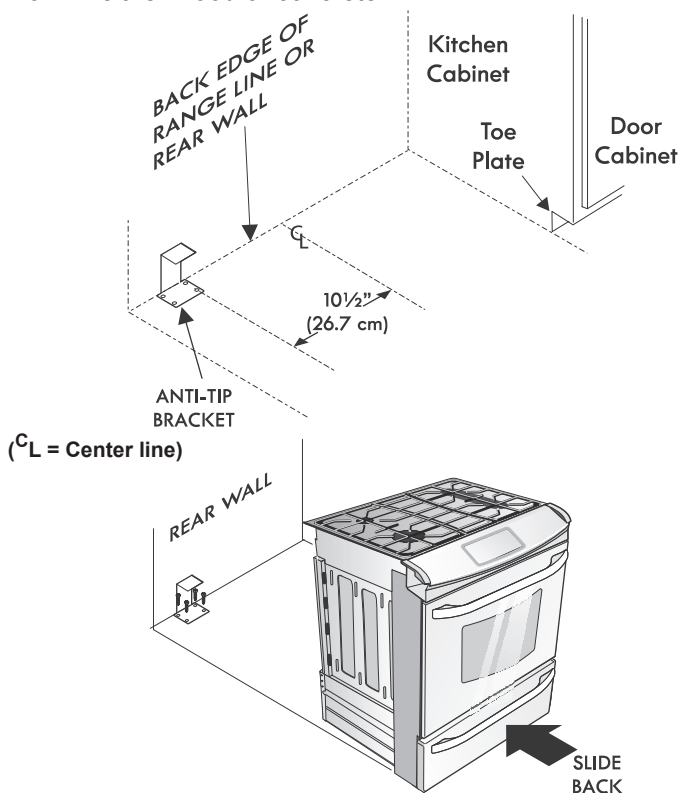

Figure 21
1. Draw a center line (CL) on the floor where the range should be installed. Also draw a line on the floor at the range back position if there is no wall.
2. Unfold paper template and place it flat on the floor with the right rear corner positioned exactly on the intersection of the center and back lines you just drew before. (Use the diagram below to locate brackets if template is not available (Figure 21)).